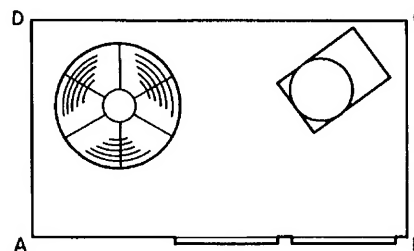
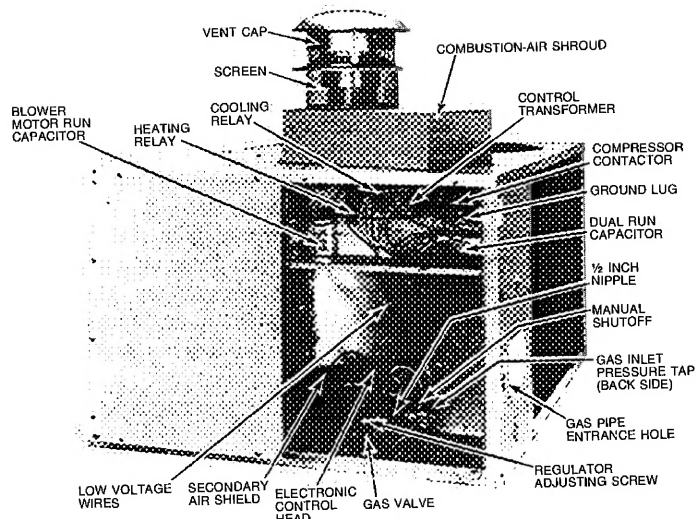

Fig. 4—Dimensions and Clearances (ft-in.)
Fig. 6—Model 48KLA136—Side View (Partial) with Access Doors Removed
4. Refer to Fig. 4 for locations of gas inlet, electrical inlets, condensate drain, duct connections, and required clearances before setting unit in place.
When installing a unit on a rooftop, be sure roof will support the additional weight. Refer to Fig. 4 to obtain total weight and corner weight information.
CLEARANCES—Required minimum operating and service clearances are shown in Fig. 4 for providing adequate combustion, ventilation and condenser air.
Models 48KHA,KLA dispose of condensate water through a $\frac{3}{4}$ -in. MPT drain fitting. See Fig. 4 for location.
VENTING—The vent cap, combustion air shroud and flue assembly are shipped in either the blower or control compartment. Vent screen is taped to blower housing. Remove access doors to locate assemblies. See Fig. 4 for door locations.
Step 2—Make Gas Piping Connections—A manual shutoff valve is shipped loose in the burner compartment or blower compartment. Connect one end of a field-supplied $\frac{1}{2}$ -in. straight nipple to the gas valve inlet. Connect the other end of the nipple to the manual shutoff valve as shown in Fig. 6. The gas supply pipe enters unit through access hole provided. See Fig. 4 for location. The gas connection to unit is made to the $\frac{1}{2}$ -in. FPT gas inlet on manual shutoff. See Fig. 6 for inlet location.
Step 3—Make Duct Connections—Model 48KHA,KLA has duct flanges on the supply- and return-air openings on side of unit. See Fig. 4 for connection sizes and locations.
The field-supplied disconnect switch box may be mounted on unit over the high-voltage inlet hole in control corner panel. See Fig. 4.
2. Run high-voltage leads into unit control box and connect to contactor. See unit wiring label and Fig. 6 and 8.
For operation on 208 volts, disconnect orange transformer-primary lead from contactor. See unit wiring label and Fig. 6. Remove tape and cover from terminal on end of red transformer-primary lead. Save cover. Connect red lead to contactor terminal from which orange lead was disconnected.
A grommited, low-voltage inlet hole is located in the panel adjacent to control access panel. See Fig. 4. Run low-voltage leads from thermostat, through inlet hole and to low-voltage flagged pigtail leads that run through a hole in bottom of unit control box. See Fig. 6. Connect thermostat leads to pigtail leads as shown in Fig. 8